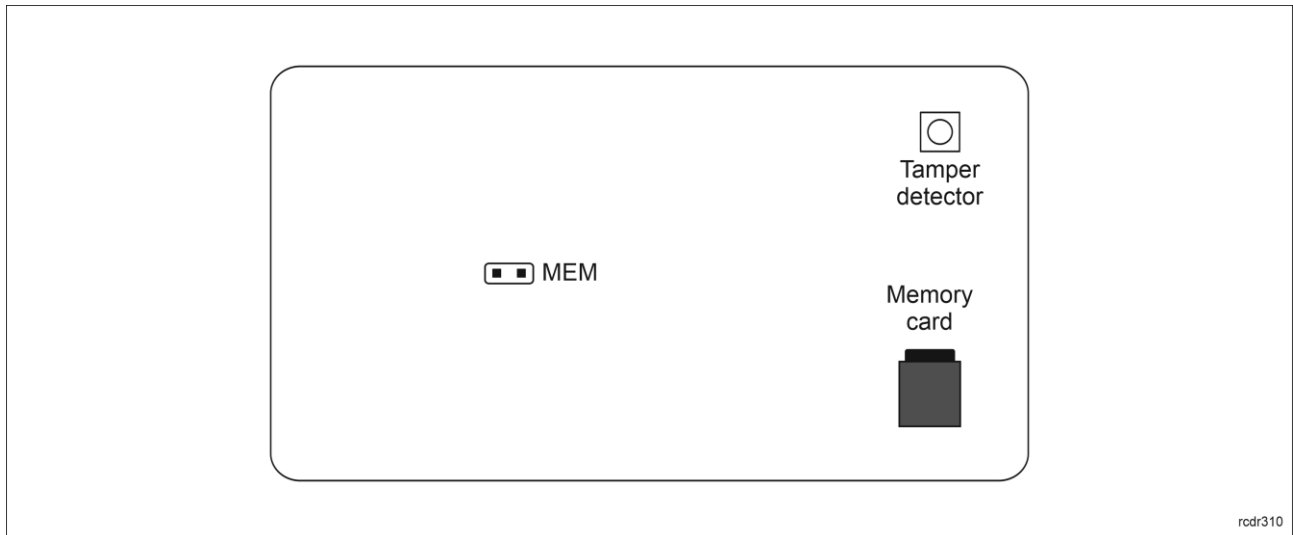

Fig. 6 Internal side of the front panel
Moreover, default functions key icons, splash screen and screensaver can be replaced using device memory card. Four new icons must be copied to ICONS folder on memory card (fig. 6) and they must be named as icon_001.bmp, icon_002.bmp, icon_003.bmp and icon_004.bmp. Splash screen file in the same folder must be named as icon_000.bmp. Screensaver graphics must be named as scrnsvr.bmp and it must be copied to the main folder of memory card. Icons, splash screen and screen saver must in bmp format (without alpha channel) and with 24bit colour depth (can be saved with MS Paint). Icon size must be 60x60pixels while splash screen size and screen saver size must be 320x240pixels.
Built-in tamper (sabotage) detector enables detection of unauthorized opening of device's enclosure as well as detachment of the enclosure from wall. The detector is internally connected to the terminal's input. It does not require low level configuration (RogerVDM) or any additional installation arrangements but it is essential to mount front panel in such way as the tamper detector (fig. 6) would firmly press the back panel. The detector requires high level configuration which consists in assignment of the function [133] *Tamper Toggle* on the level of a *Main Board* of a controller in VISO software navigation tree.
- Front panel should be attached in such way as the tamper detector (fig. 6) would firmly press the back panel.
In RACS 5 v2 system the terminal can be installed at site without previous configuration. According to AN006 application note, its address and other settings can be configured from VISO v2 management software and during such configuration the access to its service contact (fig. 6) is not required.
2. Remove jumper from MEM contacts (fig. 6) if it is placed there.
1. Place jumper on MEM contacts (fig. 6).